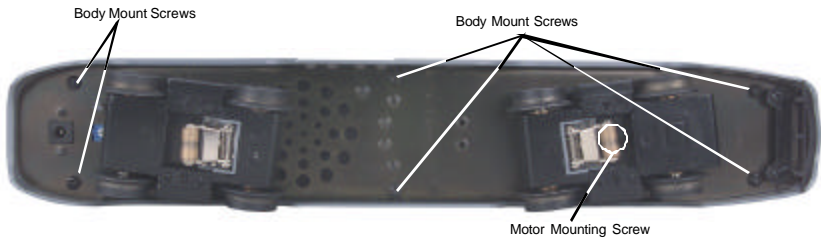

Figure 3
1. To access the gear box, remove the cab from the chassis by unscrewing the chassis screws as seen in Figure 3 and lifting the cab from the chassis.
2. Once the cab is removed, remove the trucks by unscrewing the black Phillips motor mount screw located on the underside of the drive trucks (see Fig. 3).